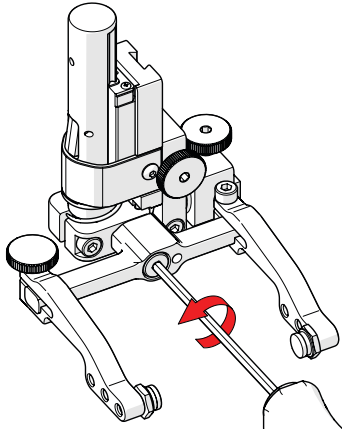

Fig. 120 - Unscrew yoke pivot screw
2. Using the supplied 3 mm hex driver (Fig. 1), unscrew the yoke pivot screw and remove yoke (Fig. 120).